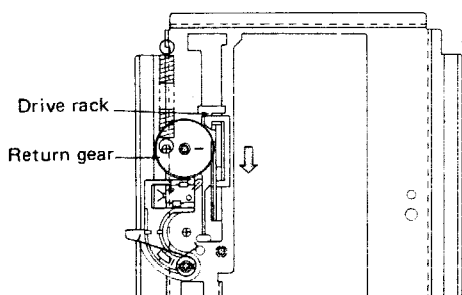

Fig. 14
*When fitting the close switch and return gear again, push the drive rack in the direction of the arrow and set them so that the return gear spring is set on the left side. [See Fig. 14] (The - marked gear of return gear is engaged between the 2nd and 3rd from top of the drive rack gears.)